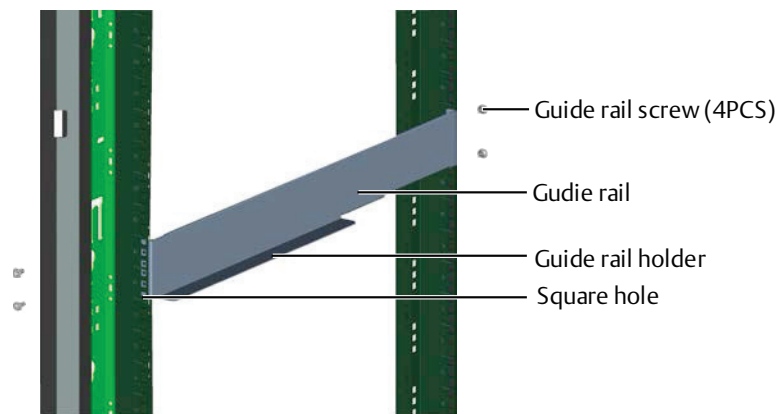

Figure 2-4 Installing the guide rail
3) Align the installation holes of the guide rail with the square holes of the rack, fix the guide rail onto the rack through the provided guide rail screws, the left guide rail and the right guide rail need four guide rail screws respectively, as shown in Figure 2-4.